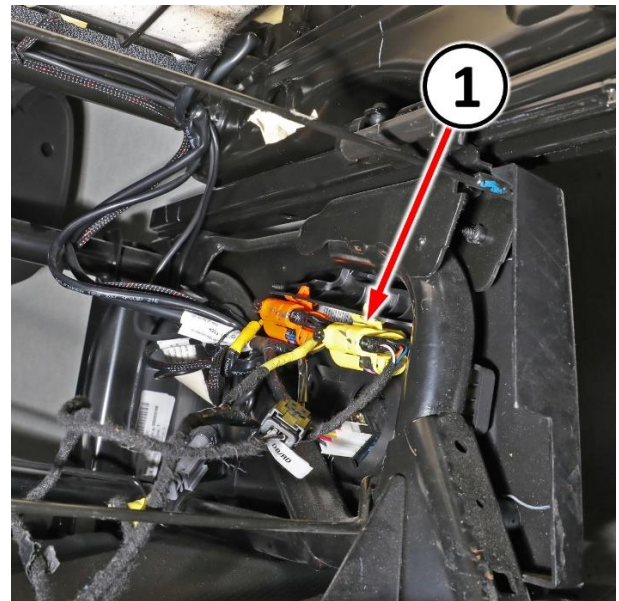

Figure 4 – Buckle Electrical Connector
10. Reach under the seat riser to access and disconnect the seat belt tensioner wire harness electrical connector (1) from the seat wire harness (Figure 4).
22. Connect the seat belt tensioner wire harness electrical connector (1) to the seat wire harness (Figure 4).